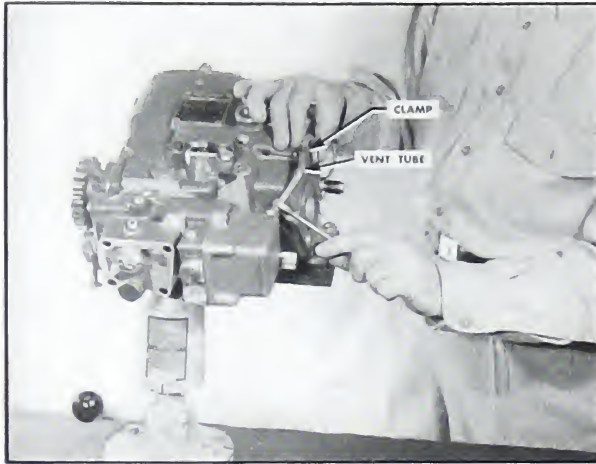

Fig. 5-371. Replace vent tube
2. Replace the vent tube to the float chamber and upper housing. Fig. 5-371.